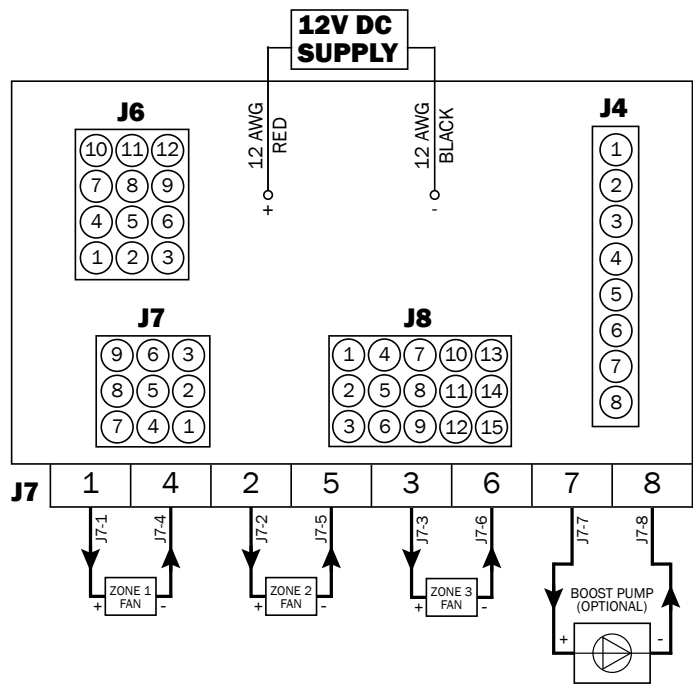

Figure 50
- 1. Refer to Figure 50 for harness installation.
- 2. Connect the opposite end of the RVC cable to the terminating resistor (Figure 50).